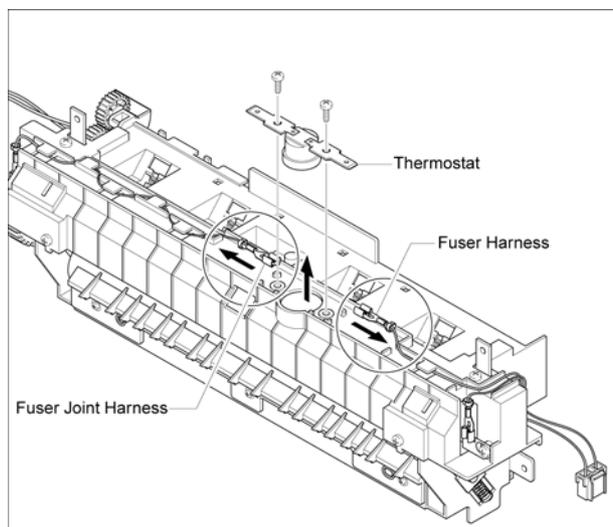

Figure 3
4. Remove 2 screws. Disconnect the Fuser Harness and the Fuser Joint Harness from both sides of the Thermostat, then remove the Thermostat, Figure 3.